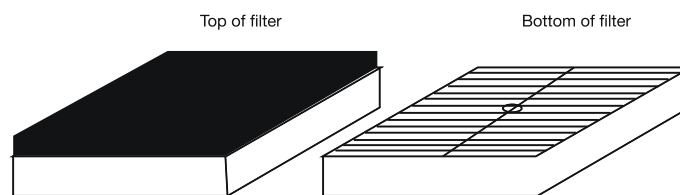

Figure 18 - Air Filter
5. Replace the air filter with the correct side up. (See Figure 18). Make sure filter is seated properly.